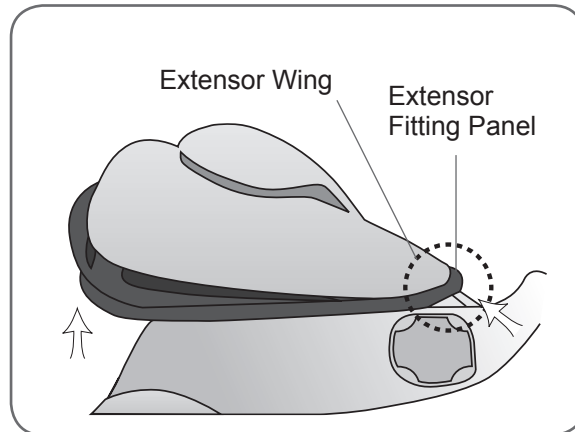

Figure 5-8: Reattaching the extensor fitting panel.
1. With the Orthosis wing open, align the extensor fitting panel to the extensor wing. See Figure 5-8.